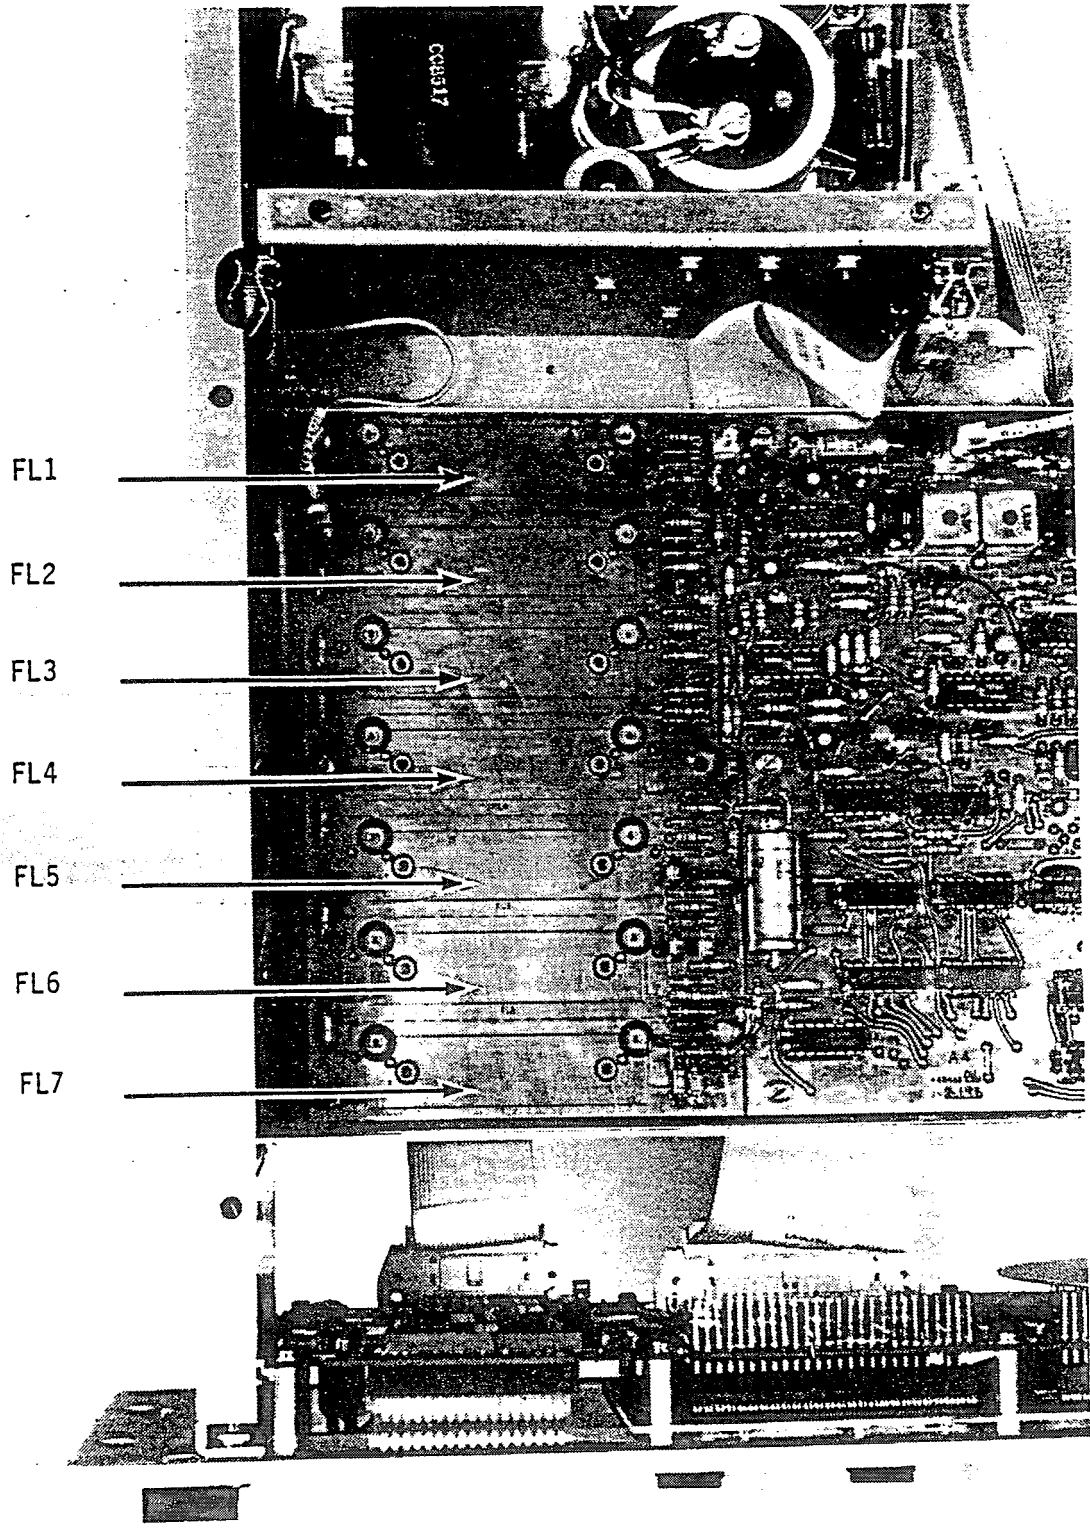

Figure 2-4 Location of IF Bandwidth Filter Slots
The installation procedures for the Receiver may be logically divided into three steps: (1) Installation of the primary operating options to include the plug-in (solder-in) filters, independent sideband and remote control interface; (2) making the required system connections; and (3) installation of the Receiver in an operational position. Paragraphs 2.3.3.1 through 2.3.4.6 detail the installation steps necessary for preparing the RA6790/GM HF Receiver for operation. Figures 2-4 through 2-9 are photographs of the details associated with installing the receiver operating options.
The Receiver can be supplied with from 1 to 7 plug-in filters. Table 2-1 lists all the optional filters available. Mounted on the A4 board, the filters are accessible from the top of the Receiver. To gain access to the A4 board, loosen the six quarter-turn fasteners holding the top cover to the Receiver and carefully remove the top cover. A retaining cover is used with the crystal filters. Remove the three screws holding this cover to the chassis and remove the cover. Figure 2-4 illustrates the seven filter slots on the A4 board.
Once the filter complement and arrangement has been determined, the following procedure should be used to insert the plug-in filters into the Receiver. Refer to Figures 2-4 and 2-5.